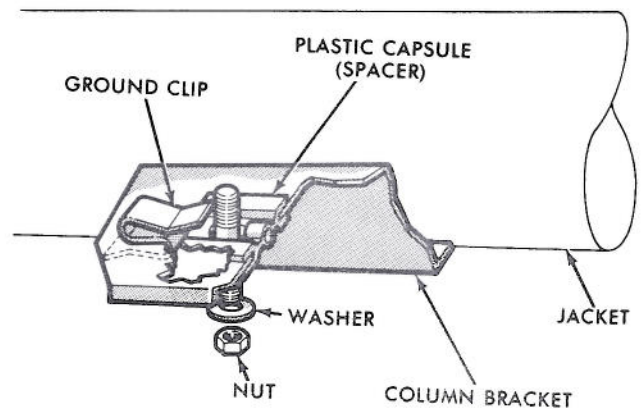

Fig. 22—Ground Clip and Spacer Installation
(1) Install ground clip on left capsule slot (Fig. 22). Plastic capsules should be preassembled in